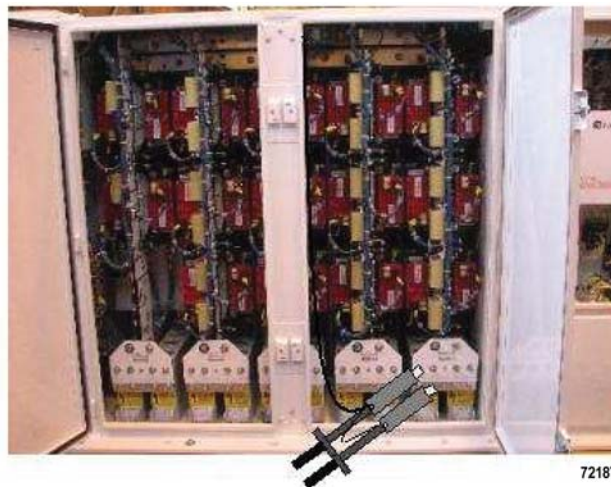

FIGURE 20-10. APPLICATION OF GROUNDING STICKS TO CAPACITOR TERMINALS
3. Discharge the relevant capacitors. Open the door(s) and place one grounding stick on one of the positive (+) capacitor terminals and the other on the diagonally located negative (-) terminal. Refer to Figure 20-8 and Figure 20-10. Attempt to minimize the time between application of the positive stick and the negative stick so that the current flow will be positive to negative rather than either to ground. Leave sticks in place until capacitors are discharged. Refer to Figure 20-10.